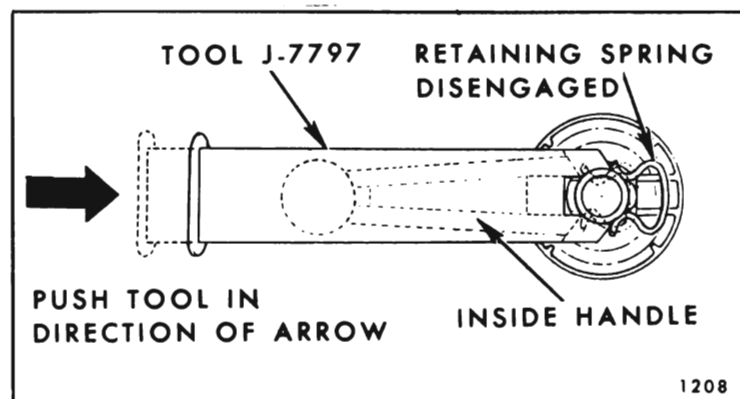

Fig. 7-10—Door Inside Handle Removal
1. Depress door trim assembly sufficiently to permit insertion of tool J-7797 between handle and bearing plate (Fig. 7-10).